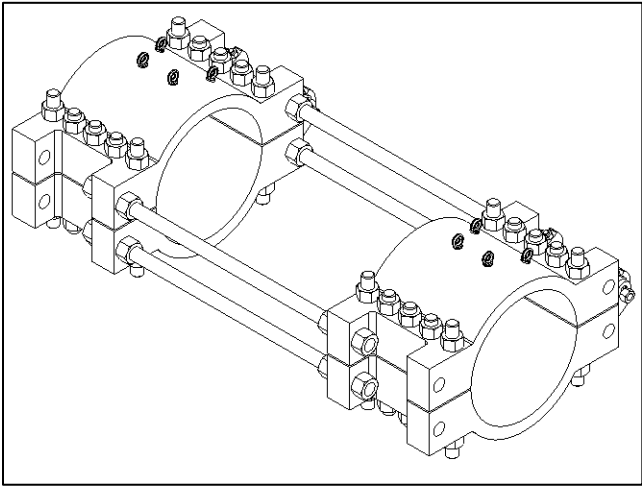

Figure 3
The Clamp+Ring is not designed to be lifted as one unit with the thru bolts attached as shown in Figure 3. The fitting should only be lifted in halves.
4. The clamp ring is not designed to be installed as one unit with the tie bolts attached as shown in Figure 3. The fitting should be installed one half of the Clamp+Ring assembly, without the tie studs, at a time.